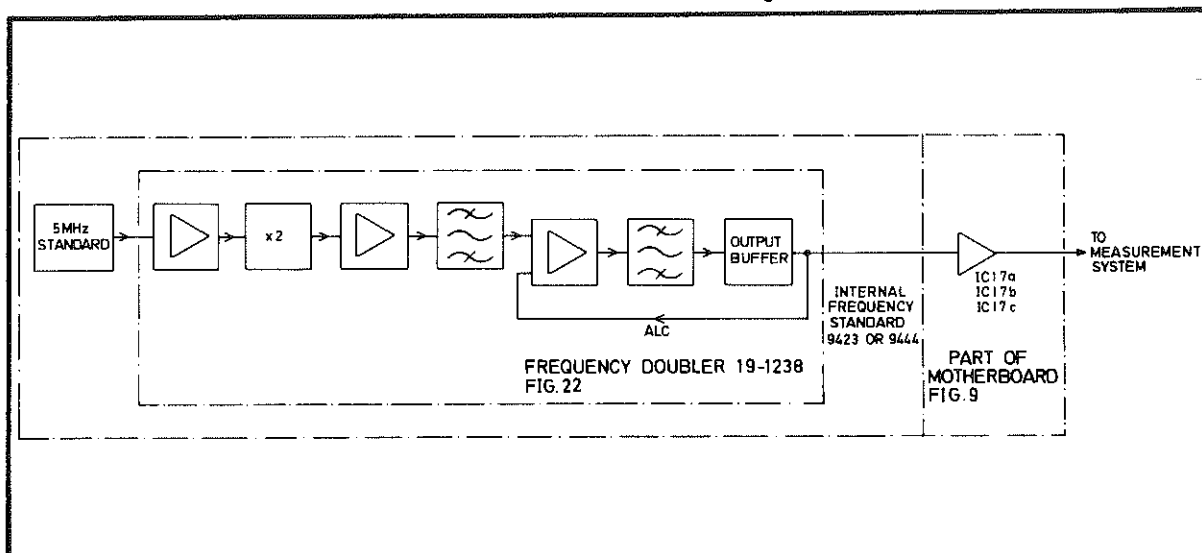

Fig 6.12 9423 and 9444 Oscillators
- 114 The internal frequency standards 19-1147 and 19-1208 are 10 MHz oscillators. Frequency standards 9423 and 9444 each comprise a 5 MHz oscillator and a frequency doubler. A block diagram of the 9423 and 9444 oscillators is shown in Fig 6.12.